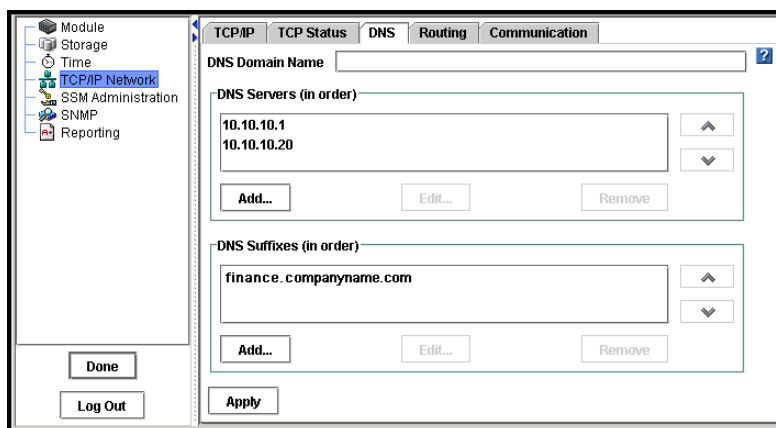

Figure 86. Adding DNS Servers
- Click the DNS tab to bring it to the front, shown in Figure 86.